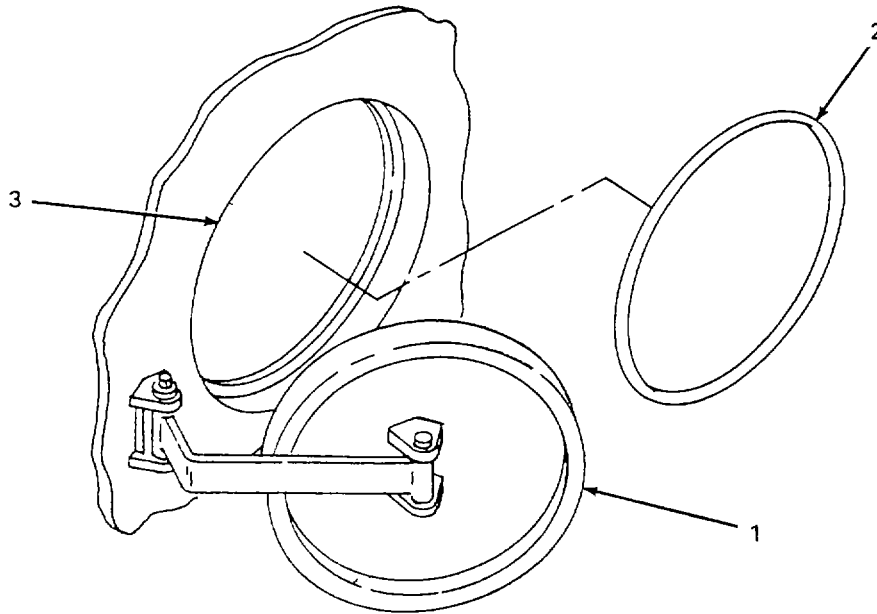

Figure 4-3. Service of Chamber Inner and Outer Door Seals.
a. Chamber Inner and Outer Lock Doors. (figure 4-3)**NOTE**